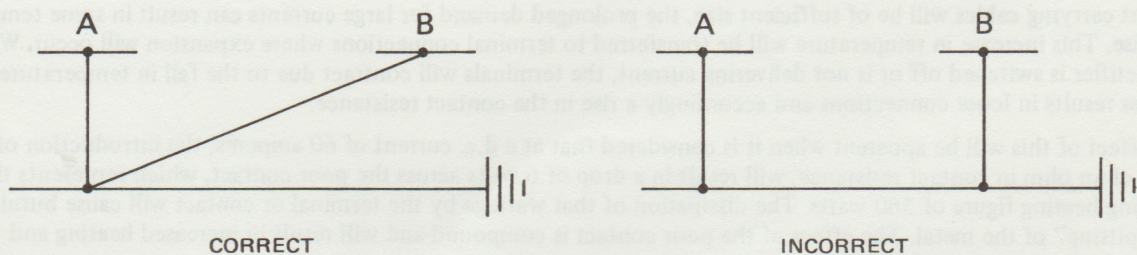

Fig. 1
- Given the correct audio-frequency zero lead connection between several amplifiers, the whole system should be connected to the earth lead at a single point. (Fig. 1)